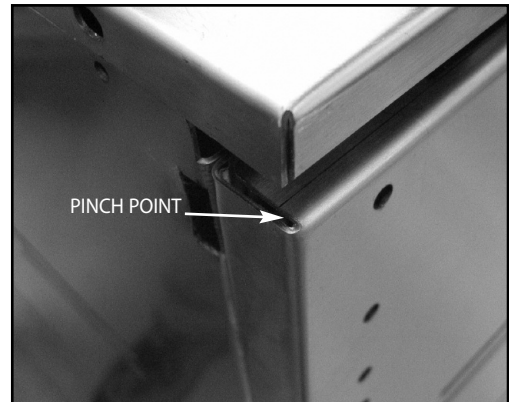

Fig. 46
- C. Position tabs on side bracket to fit into slots on the cart (be aware of pinch points)(Fig. 44-45). When complete, the landing ledge should sit flush on the top of the cart (no gap)(Fig. 46).